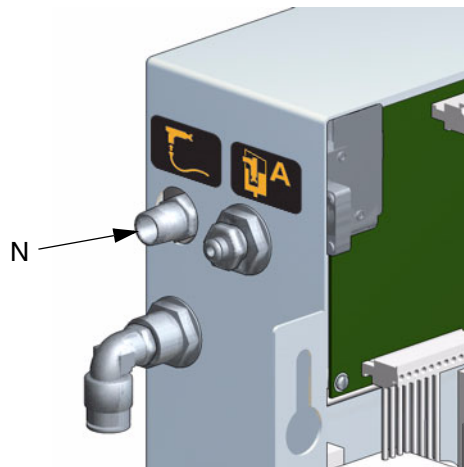
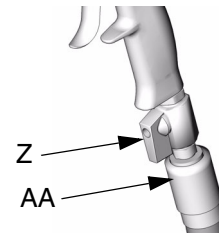
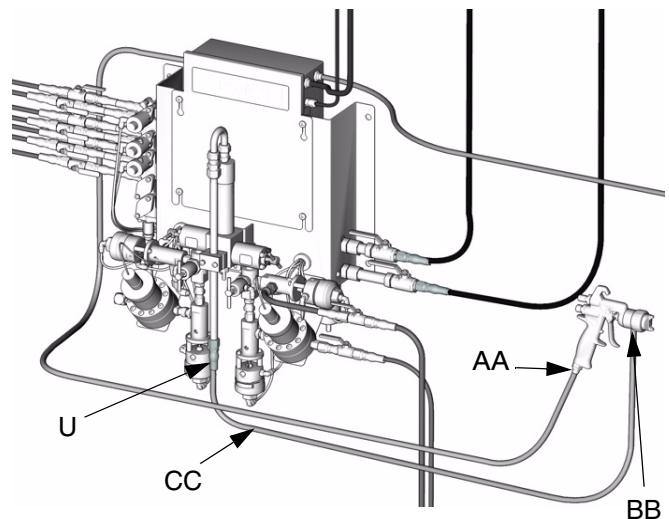

FIG. 9
FIG. 10
FIG. 11
Panel gun air outlet (N - FIG. 9) and the spray gun air inlet (AA - FIG. 10).
Panel gun air outlet (N - FIG. 9) and the atomizing air safety shutoff valve. See Gun Flush Box Manual 310695.
Install a bleed-type air shutoff valve (Z) in the gun air supply line or at the gun air inlet (AA). FIG. 10, FIG. 11.
4. Connect the gun fluid supply line (CC) between the fluid manifold static mixer (U) outlet and the gun fluid inlet (BB). FIG. 11.